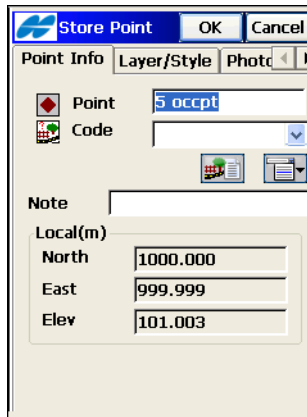

Figure 10-15. Store Point
- **Accept** – opens the *Store Point* screen (Figure 10-15 on page 10-15) to save the new point.
The *Store Point* screen (Figure 10-15 on page 10-15) saves the resection point in the job.